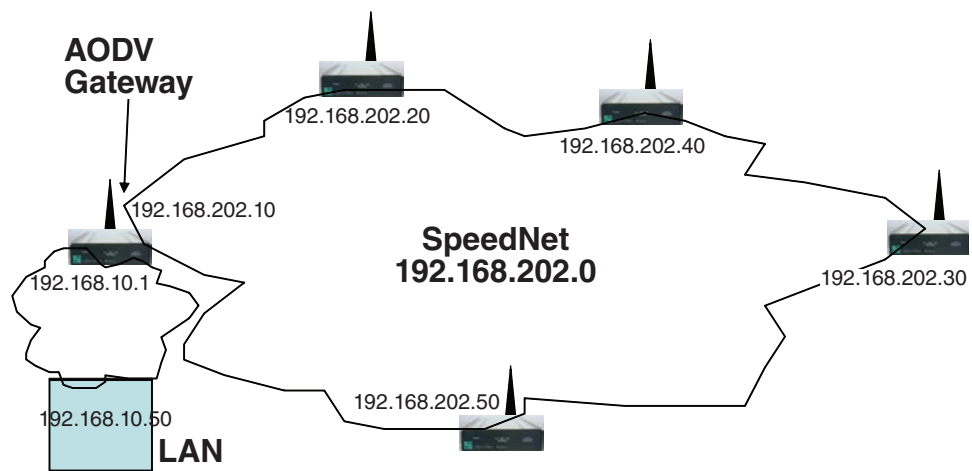

Figure 49. AODV gateway illustration.
- STEP 5.** Apply settings. See Figure 49.